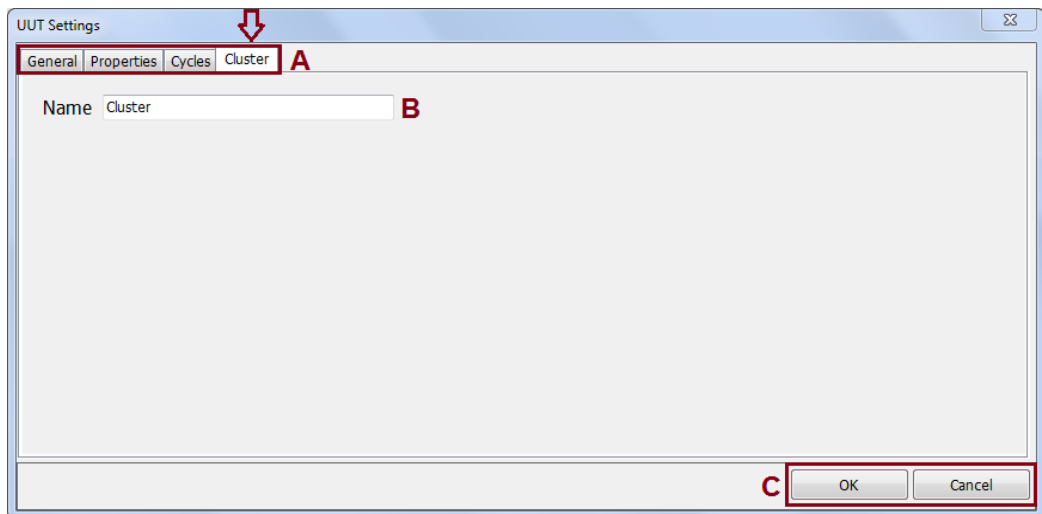

Fig 5-5 UUT Settings window – Cluster tab
1. Select the cluster name Fig 5-5 (B) - and enter the new name.
2. Click **OK** to save the changes or **Cancel** to discard them Fig 5-5 (C).
Click **OK** to apply the changes. Alternatively, click **Cancel** to discard the changes and close the window Fig 5-5 (C).